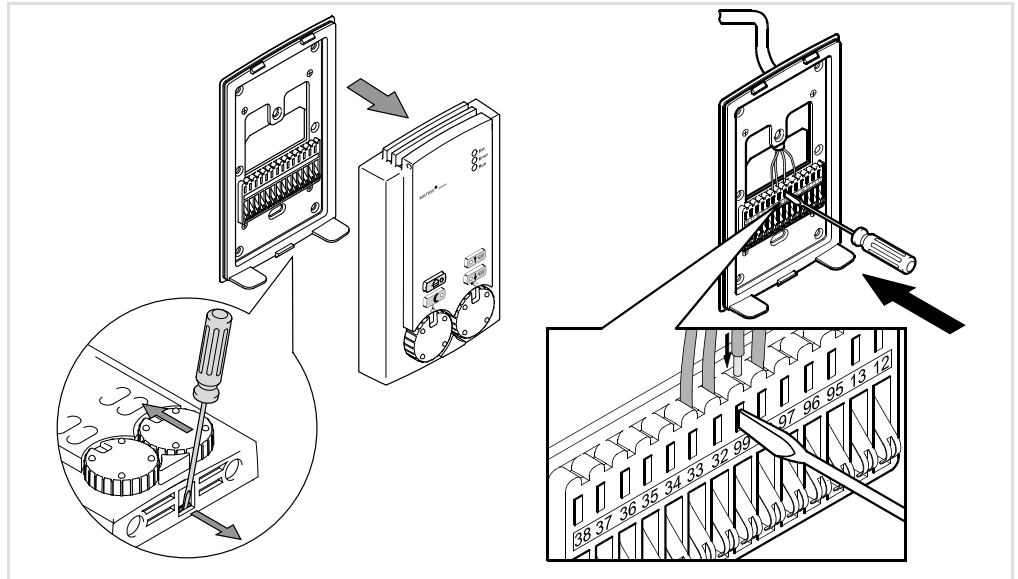

Fig. 6-11: Opening control panel
- Use a screwdriver to lock out the front panel and remove the latter to top of the mounting plate, as shown in fig. 6-11.
- Run the connection cable to the electrical control box of the unit through a diaphragm nose of the bottom section and the opening in the mounting plate of control panel (refer to fig. 6-11), the cable should then be wired to the terminals.
- Use a screwdriver to loosen the terminal (refer to fig. 6-11) and run the relevant wire into the required terminal opening. As soon as the screwdriver is removed, the spring-loaded terminal will ensure the needed grip.